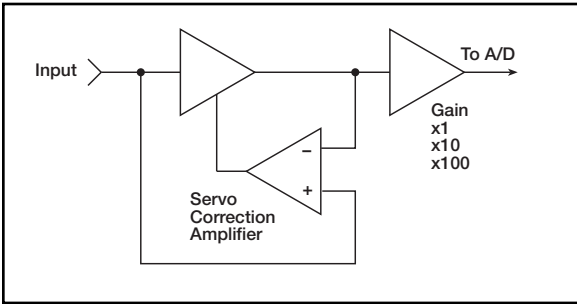

Figure 6.
- A unique "servo" front end design (**Figure 6**). While conventional DMMs typically measure and correct for the zero drift of front-end circuitry, these systems' servo front end eliminates zero drift, which also eliminates the wasted measurement time usually required to check zero, further increasing measurement speed.